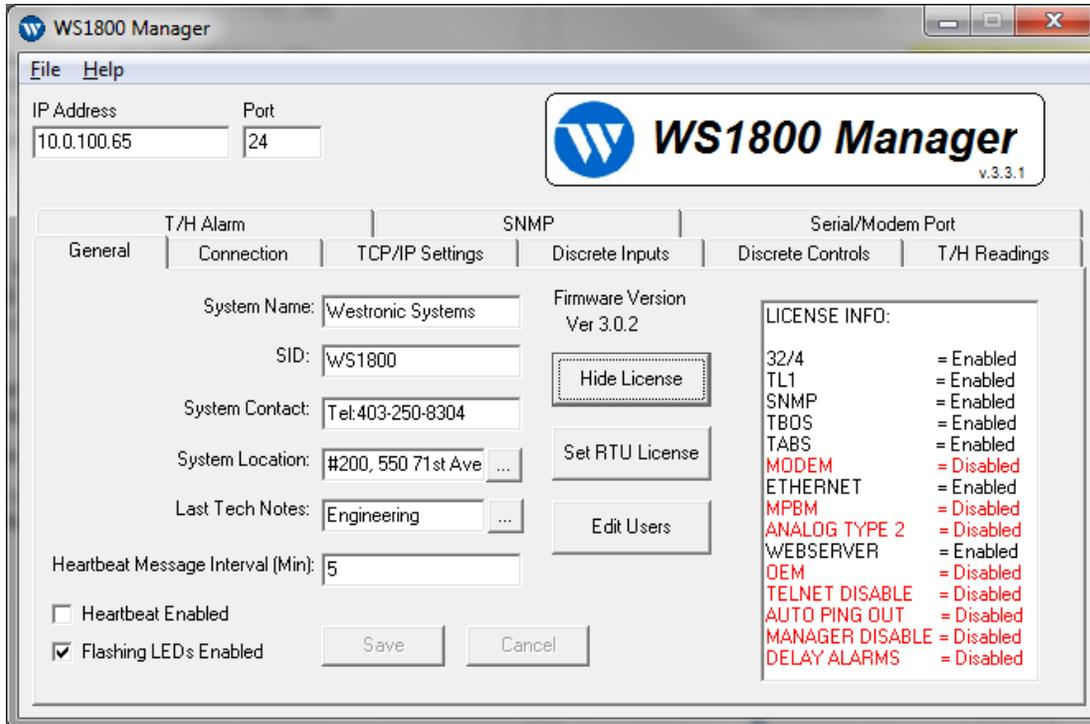

Figure 7 – General Tab when Manager connected to an RTU
- In Figure 7 below, the General Tab is now shown when connected to a WS1800. Note that the Show License and Set RTU License buttons have become active, and the Firmware Version of the unit connected to WS1800 Manager is shown above them for reference. In this case, the Show License button has been used, the License info of the WS1800 is showing on the right. Also note that the Show License has now become a Hide License button.